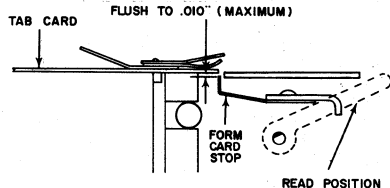

Figure 27
- Insert a card, lower the card release lever and adjust the card stops so they are flush to .010" (maximum) below the surface of the card table (Figure 27). To obtain the adjustment, raise the card table and form the stops until the adjustment is correct, lowering the card table, hooking up the upper feed roll ball springs and tightening the screws each time.